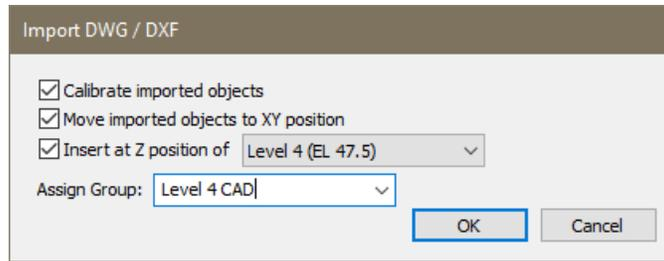

Figure 4-3
- Click on the Assign Group text box and type "Level 4 CAD", after this the Import DWG/DXF window will look as shown in **FIGURE 4-3**.